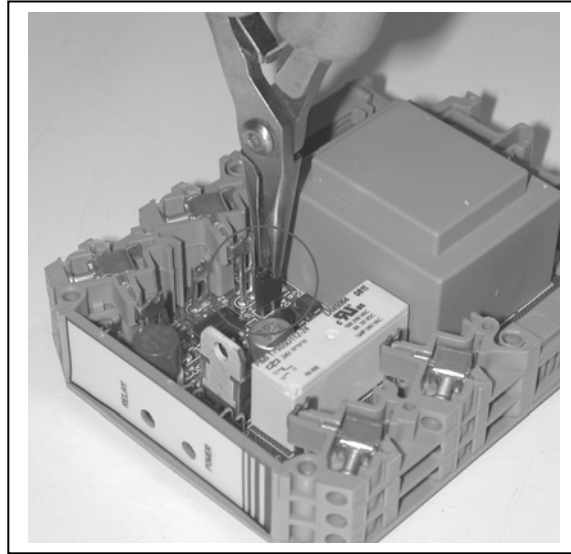

Figure 5
Note: For dry contact device, jumper JP1 must be installed (default configuration). See Fig. 5
1. For NPN output device, jumper JP1 must be installed (default configuration). See Fig. 5.
2. For PNP output device, jumper JP1 must be removed (open). See Fig. 5.
4. EXC. (J) and SIGNAL (M) are internally connected (no external jumper wire required).